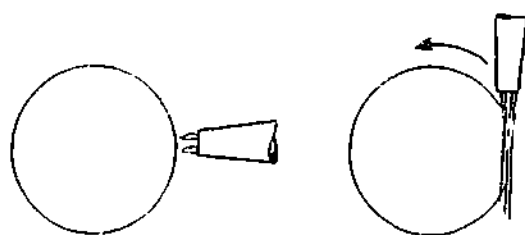

Figure 8-49. Cutting Rounds — Position of Torch
**Cutting Rounds** Hold the torch perpendicular to the work for preheating and then move it to a tangential position to begin the cut. To complete the cut, move the torch following the outline of the round (Figure 8-49).